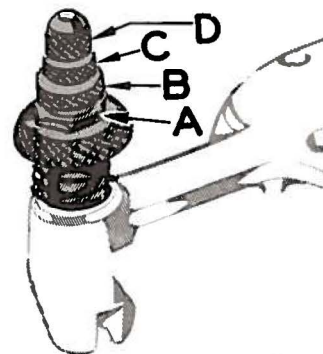

Fig. 2
Sufficient pressure to feed work uniformly should be maintained. Should it be necessary to increase or decrease amount of pressure on presser foot, loosen lock nut (A, Fig. 2) and turn adjusting screw (B). Adjusting screw has a right hand thread so tightening increases pressure, loosening decreases pressure. When pressure adjusting screw (B) has been properly set, tighten lock nut (A). With presser foot resting on throat plate, position locking nut (C) so that its under surface is approximately  $\frac{1}{32}$  inch to  $\frac{1}{16}$  inch from the top surface of adjusting screw (B). Set cap (D) against locking nut (C).